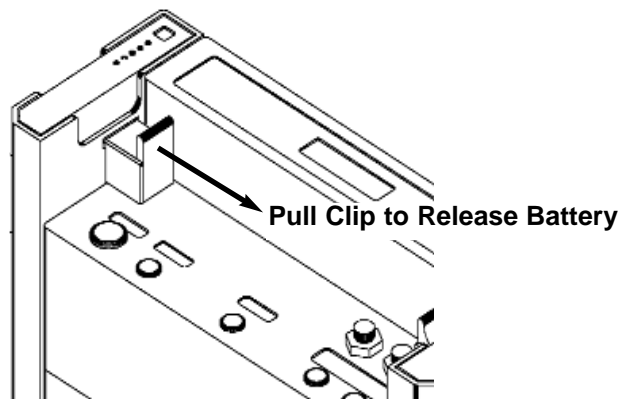

Figure 4.18 TLC-II Driver Battery Removal
- 4.6.6** To remove a depleted battery from the TLC-II, slide the retaining clip (as shown on diagram) and remove the battery. Slide a fresh battery into the slot, pushing all the way down until it snaps into place (**Figure 4.18**).